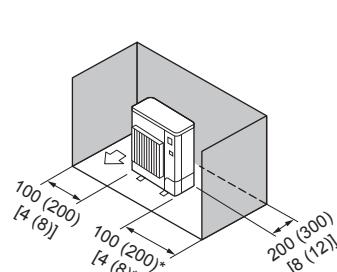

Fig. 2-8
③ Obstacles at rear and sides only (Fig. 2-8)